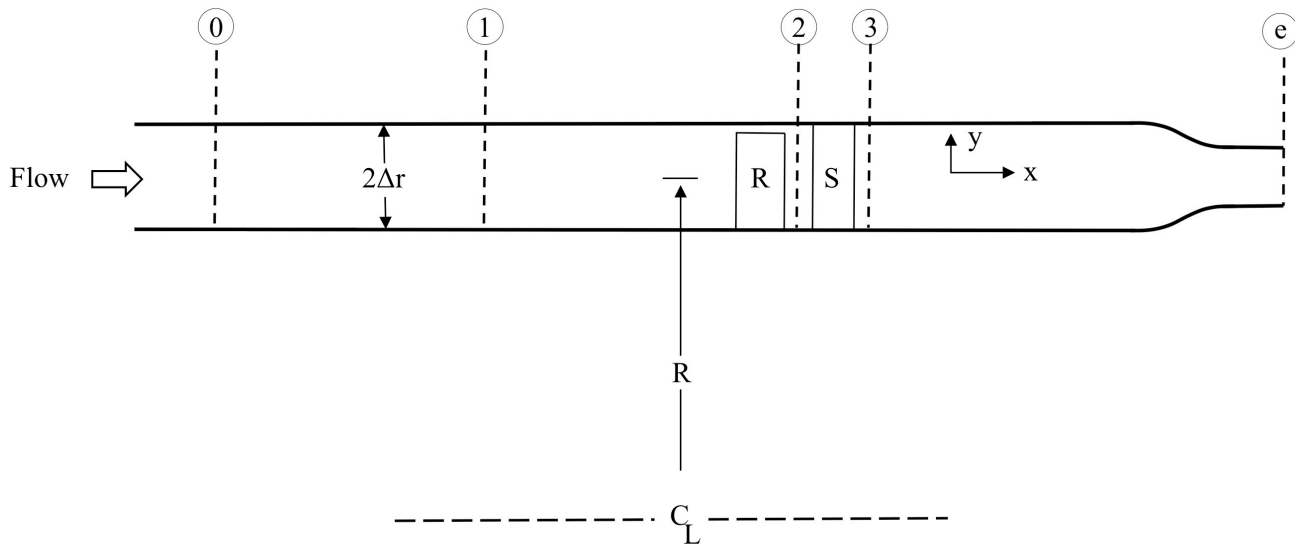

Figure 1. Turbomachinery and nozzle in annular duct with mean radius R
Question I. An annular duct with a turbomachinery stage and nozzle is shown below, along with station numbers, in Figure 1. The flow far upstream, at station 0, is uniform, steady, axial (i.e., in the x-direction) and parallel. The flow at station 3, at the exit of the turbomachine, is also axial and parallel, but has a non-uniform velocity magnitude, with velocity distribution,
g) Downstream of the stage there is an exit nozzle of contraction area ratio, $A_3 / A_e = CR > 1$, as shown in Figure 1. What is the velocity difference across the nozzle (top to bottom) compared to that at the exit of the turbomachinery stage?